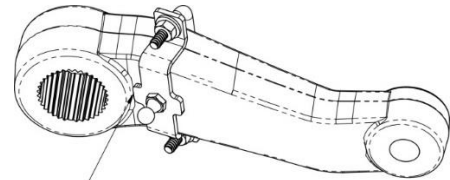

Figure 25: Locating the Ball Stud on Pitman Arm
7. Attach the Ball Stud Bracket to the Pitman arm as shown in Figure 25. Torque U-Bolt nuts to **60 – 85 in-lbs.**